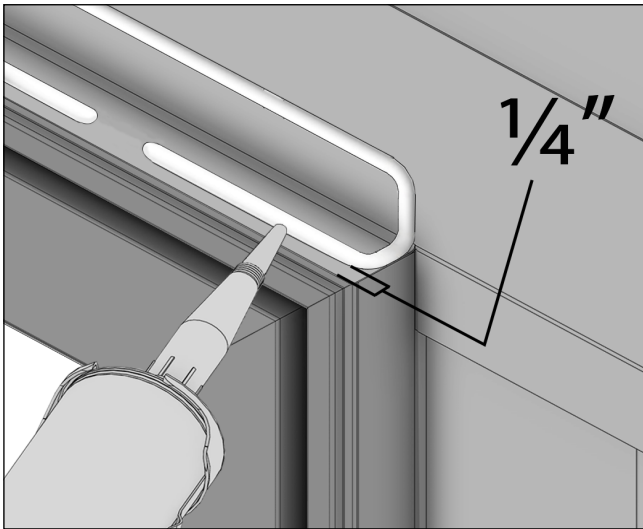
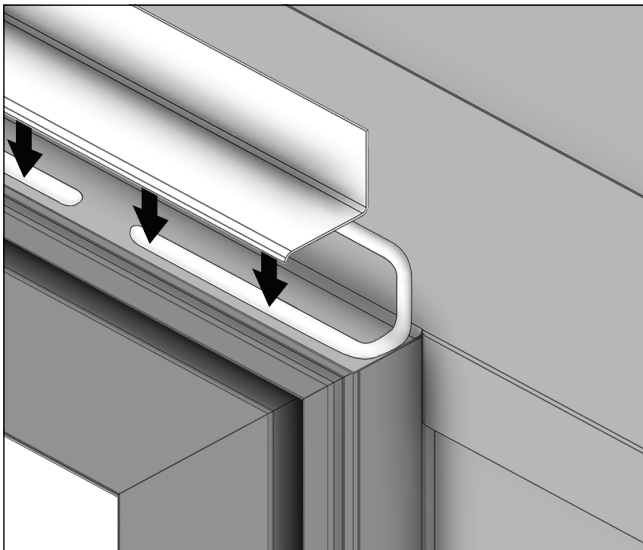

Figure 52
Figure 53
10. Install Rigid Head Jamb flashing. See Figure 52 and Figure 53